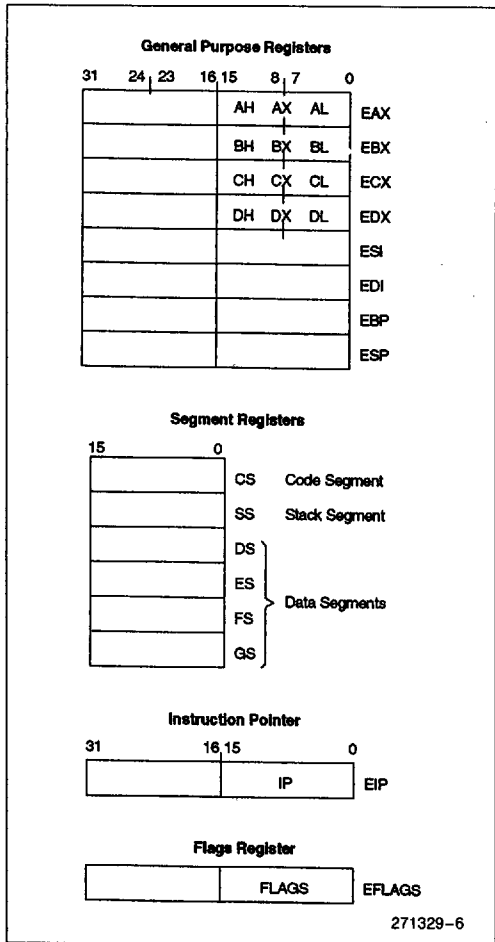

Figure 4-2. Base Architecture Registers
Figure 4-2 shows the Military Intel486 processor base architecture registers. The contents of these registers are task-specific and are automatically loaded with a new context upon a task switch operation.
The eight 32-bit general purpose registers are shown in Figure 4-2. These registers hold data or address quantities. The general purpose registers can support data operands of 1, 8, 16 and 32 bits, and bit fields of 1 to 32 bits. Address operands of 16 and 32 bits are supported. The 32-bit registers are named EAX, EBX, ECX, EDX, ESI, EDI, EBP and ESP.
The instruction pointer shown in Figure 4-2 is a 32-bit register named EIP. EIP holds the offset of the next instruction to be executed. The offset is always relative to the base of the code segment (CS). The lower 16 bits (bits 0-15) of the EIP contain the 16-bit instruction pointer named IP, which is used for 16-bit addressing.